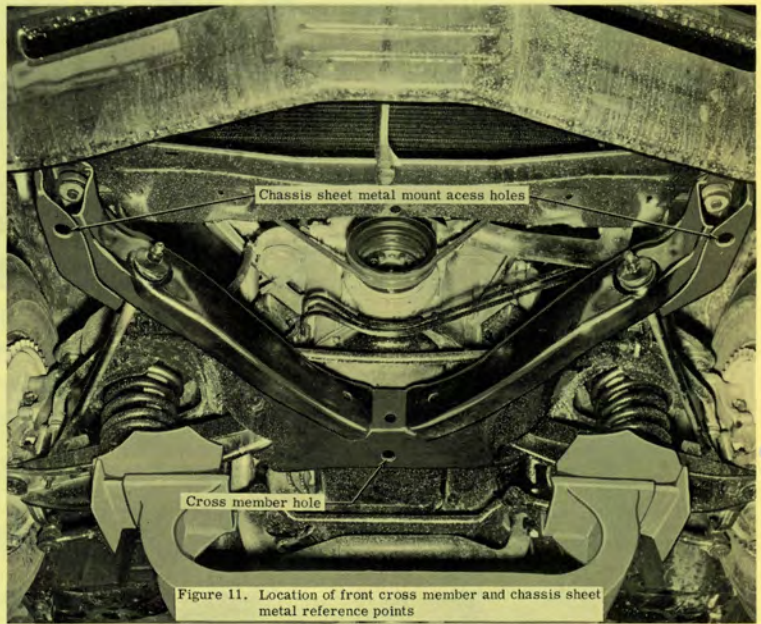

Figure 11. Location of front cross member and chassis sheet metal reference points
4. To determine the extent of frame damage, measure car using frame layout 24 which indicates reference points, dimensions and tolerances. In addition to body bolt access hole locations, frame layout 24 shows chassis sheet metal mount access holes and the front cross member hole which are also used as reference points; figure 11 further illustrates the locations.